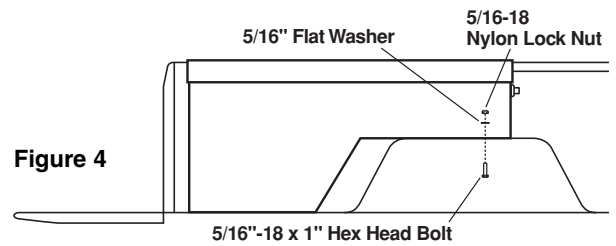

Figure 4
Note: This step may be omitted if you are able to use the alternate method in Fig. 4.
Alternate Mounting Method Figure 4
- Mark, center punch and drill 3/16" hole in bottom of box and top of wheel well as shown in Fig. 4.
- Install bolt per Fig. 4.